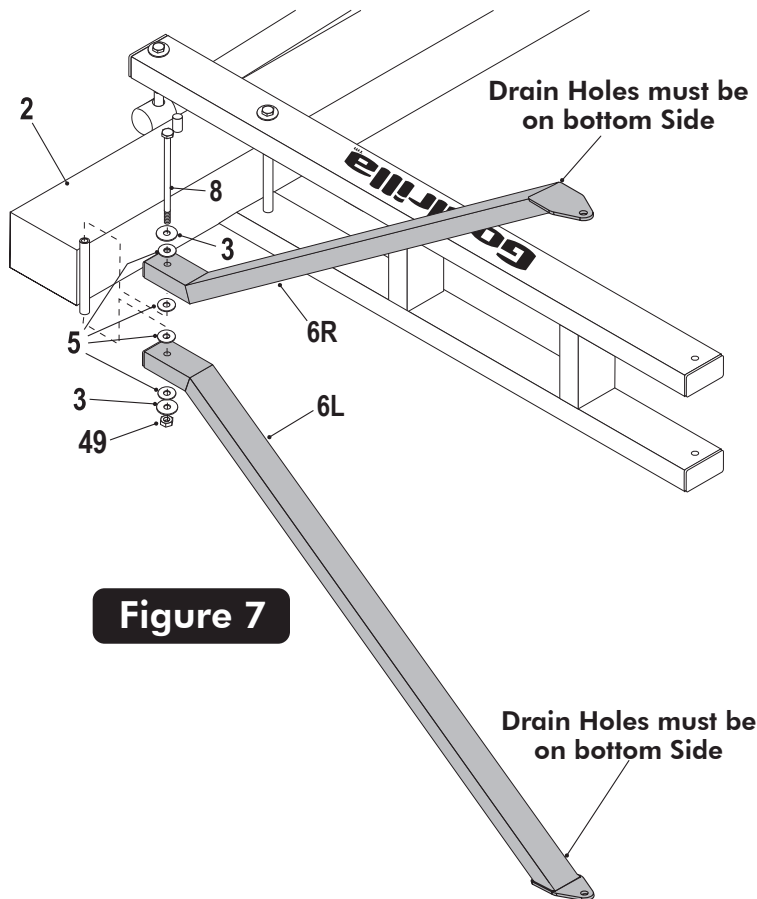

Figure 7
6. Attach Upper Arms (#6L & 6R) to pole (#2), as shown in Figure 7. Using a bolt (#8), two flatwashers (#3), four plastic washers (#5) and hex nut (#49).